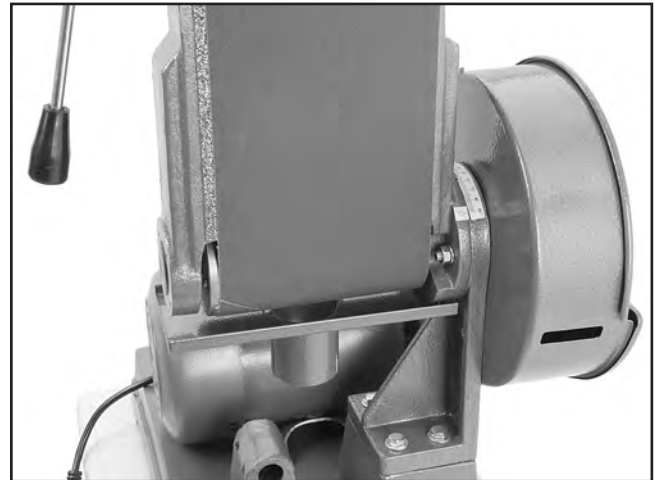

Figure 66. Sanding belt tilted to 90° position.
6. Raise the sanding belt frame until it reaches the 90° mark (or the desired angle) on the tilt scale, as shown in **Figure 66**, then tighten the rotation lock nuts.